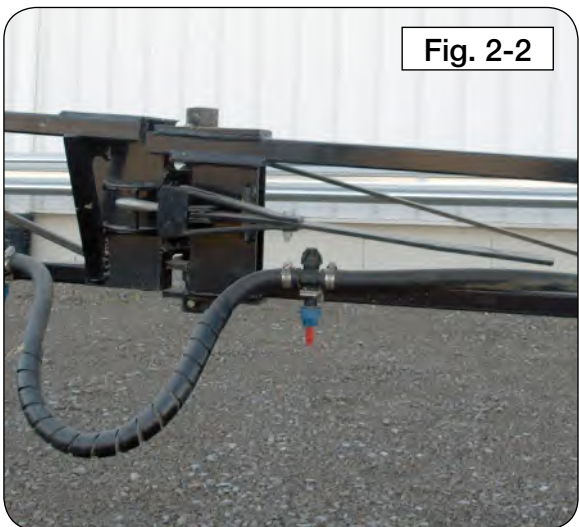

Fig. 2-2
**NOTE:** Over center latches on the Main Wing and Mid Wing should be adjusted so that when latched, the boom is rigid (Not loose/sloppy). Adjustment can be accomplished by the threaded portion of hook end. (Fig. 2-2 and 2-3)